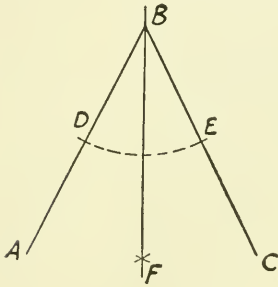

Fig. 588
7. To bisect a given angle (Fig. 588).—Let ABC be the given angle. From B describe an arc DE cutting AB and BC at D and E. From D and E, with any equal radii, describe arcs intersecting in F. Draw BF and it will bisect the angle ABC. That is, the angle ABC is divided into two equal angles ABF and FBC.